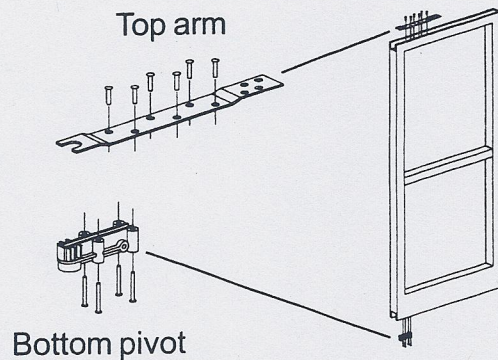

Figure 11-2
### 11.2. Install top arm and bottom pivot using screws supplied with those components (Figure 11-2). Use machine screws for metal door; use wood screws for wood door.
2. Note position of operator spindle. Turn on operator power. Momentarily short activation wires so spindle slowly rotates toward full open position and stops. Continue doing this until spindle reaches full open position (refer to Figure 11-2), then join activation wires together with a wire nut.